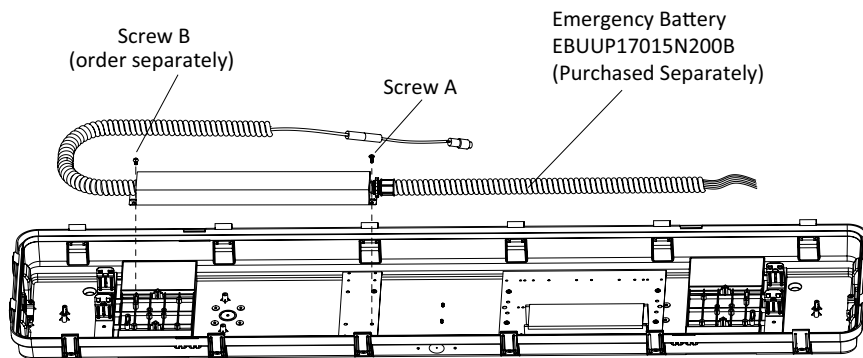

Figure 2
3. Install the Emergency Battery onto the housing using Screws A and B (order separately) as shown in Figures 2 & 2A.